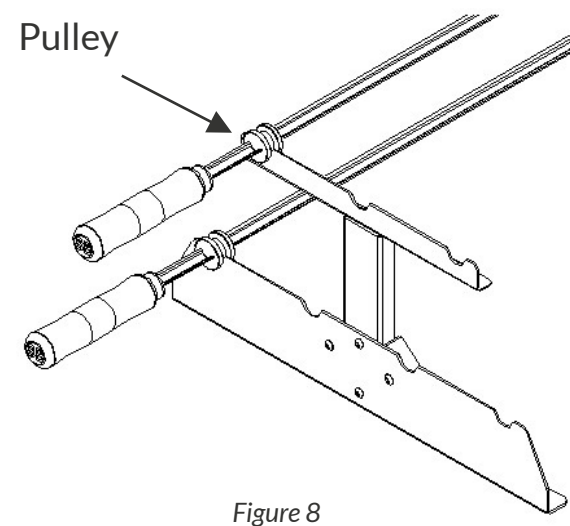

Figure 8
f) After securing the parts, adjust the Skewer Pulley. The Pulley should be loosened and its channel positioned in the center of the Front Support (Figure 8). Then, retighten the screw that secures the Pulley to the skewer, ensuring it is firm to prevent the skewer from dislodging from the Rear Structure and falling into the fire.